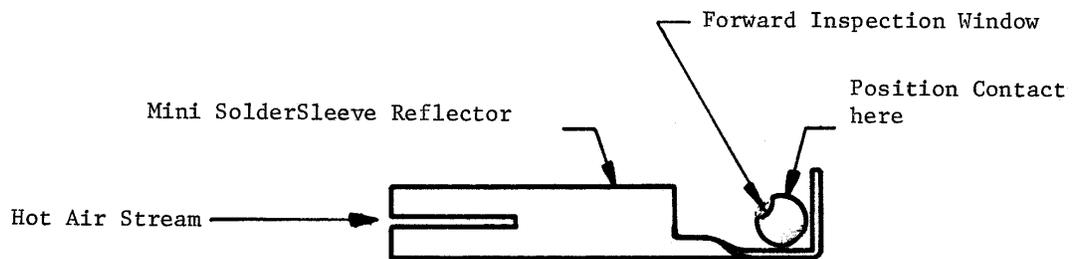

Figure 10
5.4.2.8 For optimum heating, position the contact as shown in Figure 10 or 11. Center the forward inspection window in the reflector. Position the forward inspection window toward the hot air stream such that the inner solder preform is still visible during termination.